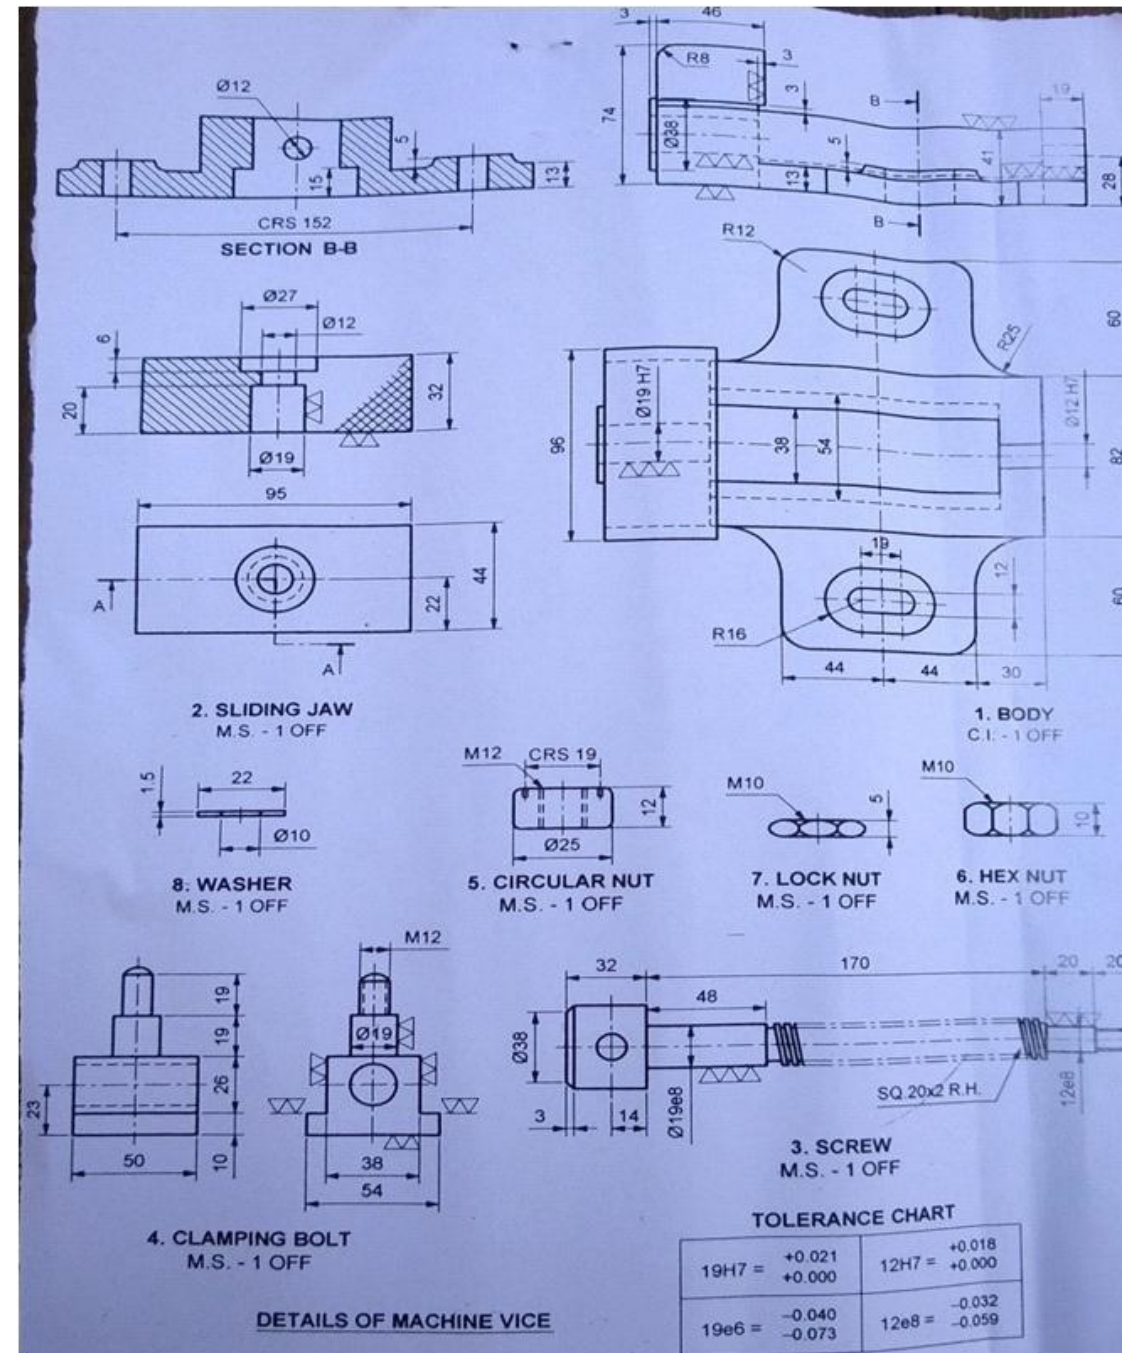

Figure 7
3. Figure 7. Shows the details of machine vice. Draw the following views of the assembly. (a) front view sectional (b) top view outside (c) prepare bill of material